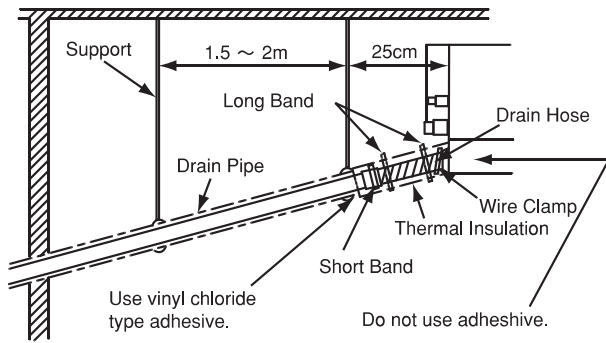

Fig.5.12 Drain Piping
- (1) The position of the drain piping connection is shown in Fig. 5.12 .
- (2) Prepare polyvinyl chloride pipe with a 32mm outer diameter.
- (3) Fasten the tube to the drain hose with the adhesive agent and the field-supplied clamp. The drain piping must be performed with a DOWN-SLOPE pitch of 1/25 to 1/100.
- (4) Insulate the drain pipe after connecting the drain hose.